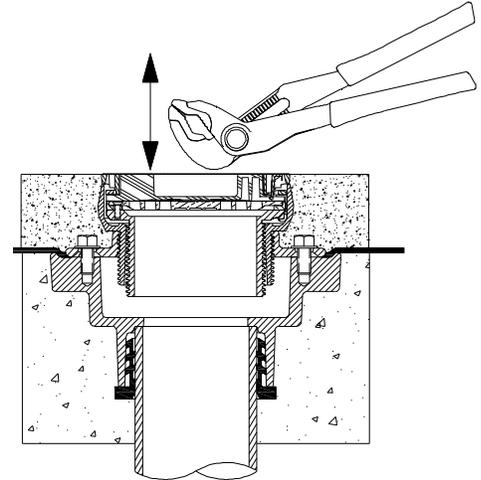

Fig. 7
7. Hit the top of the rough-in cover with a pair of adjustable pliers to loosen bond with the concrete. Continue hitting the rough-in cover until a visible crack forms around the entire circumference of the rough-in cover. Rough-in cover should appear loose (separates up from concrete). See Fig. 7